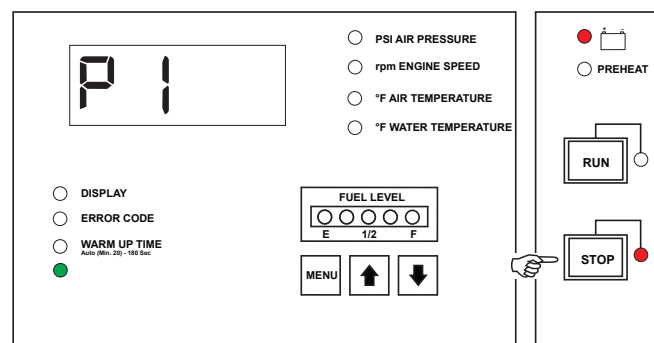

Figure 41. Pressure Adjustment
15. Once the desired pressure setting has been selected, "P1" will again be shown on the 7-segment display (Figure 41). Press and hold the **STOP** button to return to normal operating mode.